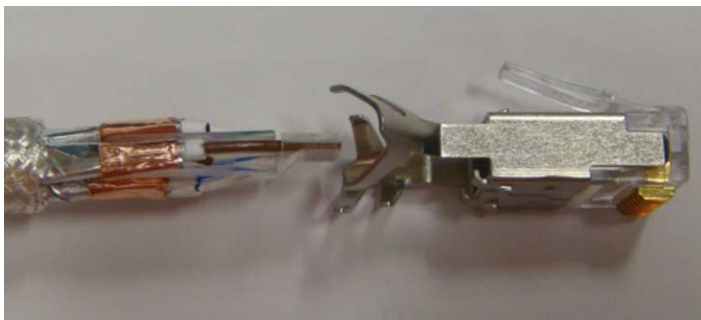

Figure 23: Inserting cable into connector plug body
14. Insert the cable into the connector plug body with the flat side of the load bar aligning with the top of the connector body (Figure 23).